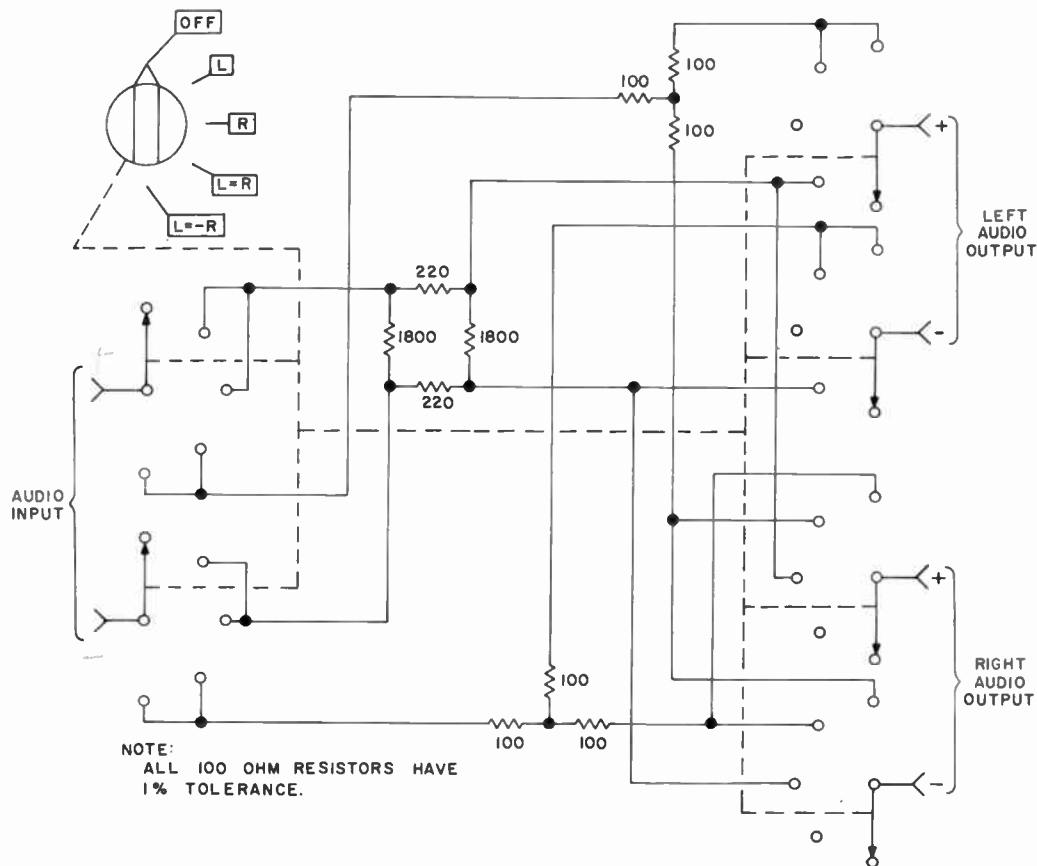

Figure 5-5. Test Switch for Obtaining Stereo Signals
- a. Construct a stereo test switch as illustrated in figure 5-5.